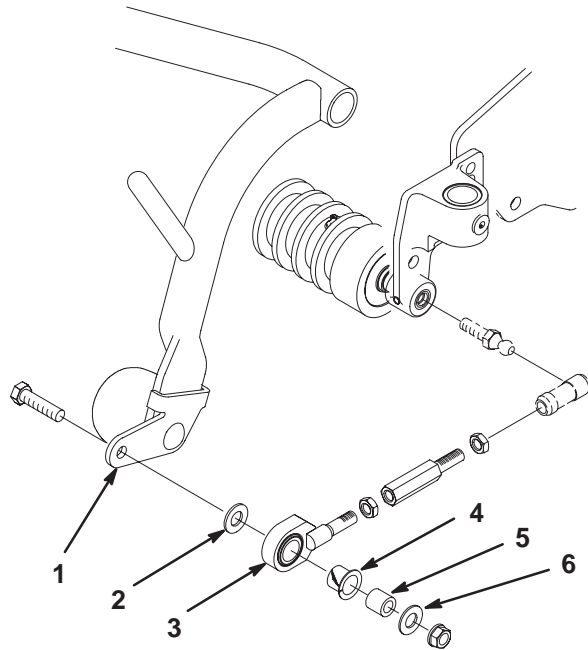

Figure 13
38. Mount a pull link assembly to the outside of each link bracket with a capscrew, flat washer, nylon bushing, spacer, washer, and locknut. Position the components as shown in Figure 13. Make sure that the nylon bushing is in the pull link.